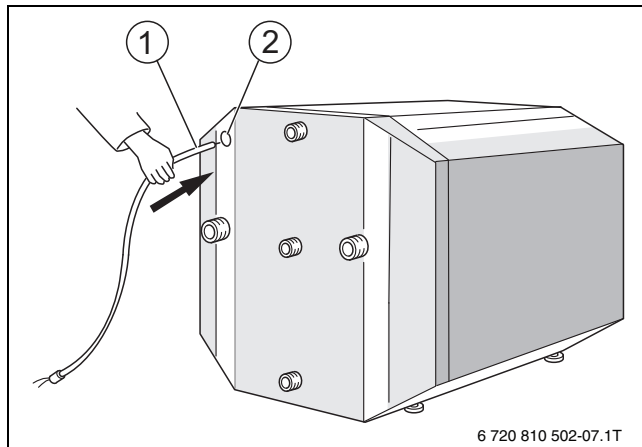

Fig. 13 Fitting sensors
- ▶ Insert the DHW tank temperature sensor (→ Fig. 13 [1]) into the conduit [2] at the rear of the tank.